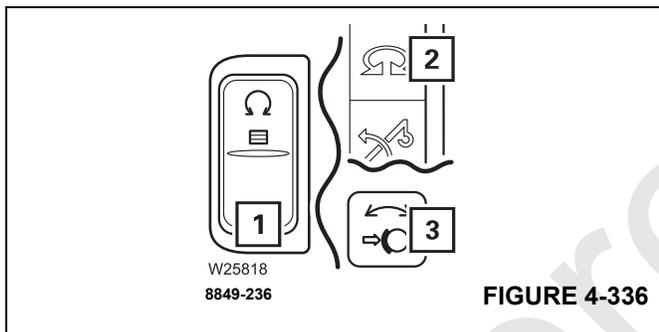

FIGURE 4-336
- The lamp in the switch (1), (Figure 4-336) must be dimly lit.
- Then symbol (2), (Figure 4-336) turns orange – swing gear switched OFF.
- Lamp (3), (Figure 4-336) must light up – swing gear brake applied.